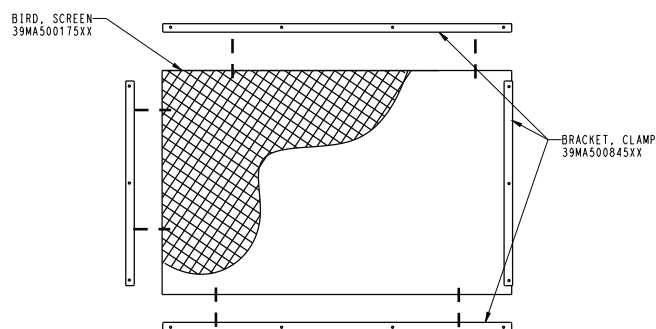

Fig. 72 — Mounting the Bird Screen
9. Mount the four brackets to the bird screen. See Fig. 72.